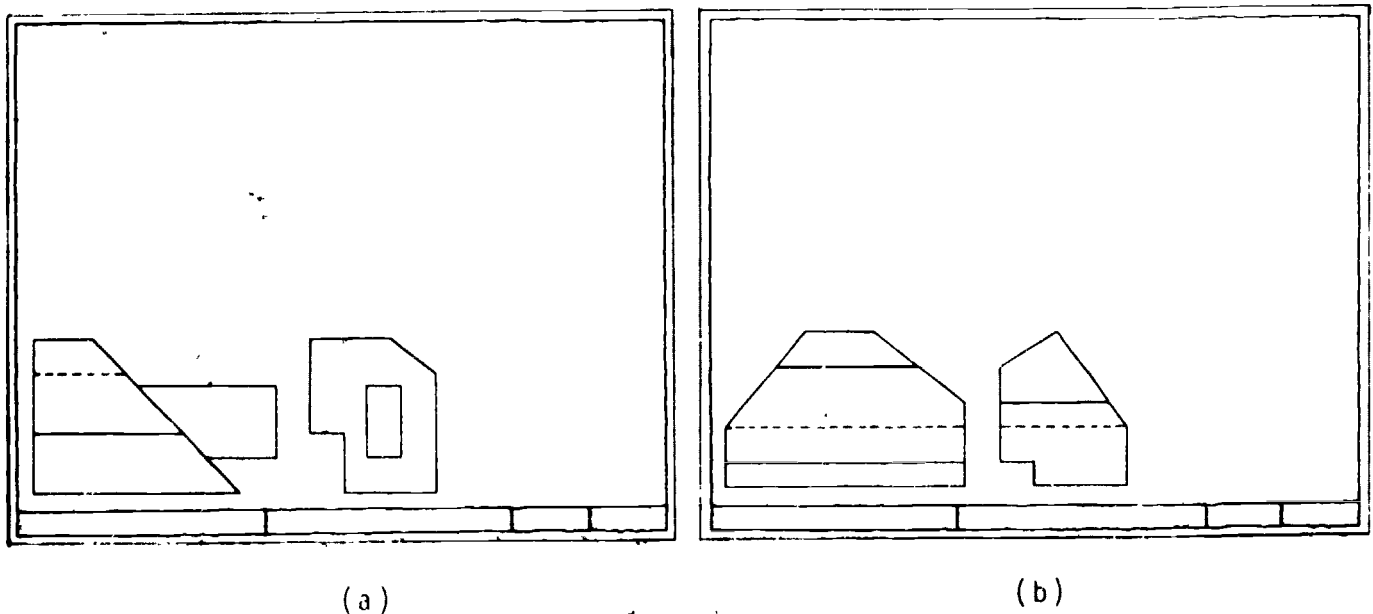

Figure 4.4
1. Sketch the two given views and add the top view of the objects in Figure 4.4. Use the same format and title block as shown. Sheet size 9 x 12